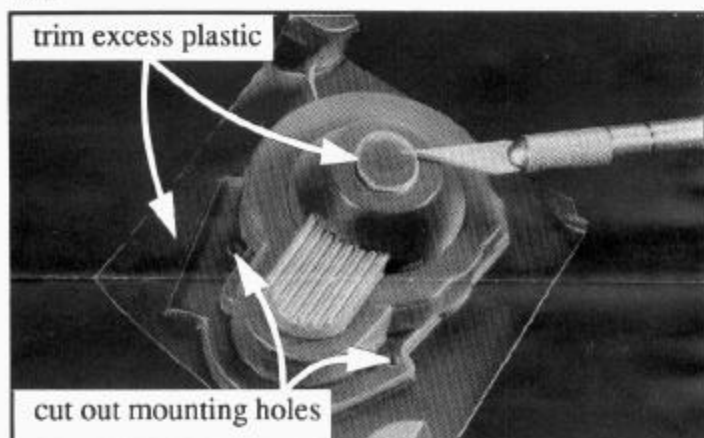

fig. 1
**STEP 1** With an X-acto knife, cut out the round portion as shown in figure 1 so the cap will seat flush with the surface after you insert it. Cut along the edges carefully in order to form a tight seal for your cap.